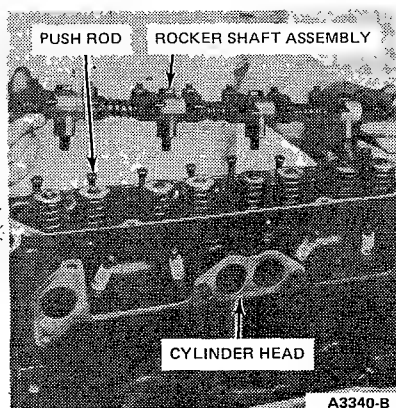

FIG. 28 Removing or Installing Rocker Arm Assembly
4. Remove the rocker arm shaft attaching bolts evenly and lift off the rocker arm shaft assembly (Figure 28).
- push rod ends with Lubriplate or equivalent. Position the rocker shaft assembly on the cylinder head (Figure 28) engaging the push rods with the adjusting screws. Install and tighten the bolts evenly to specifications.